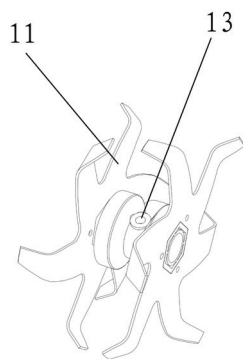

Fig.1
1. Remove hex socket screw 13 from blade component 11 using a hex socket wrench. (Fig1)